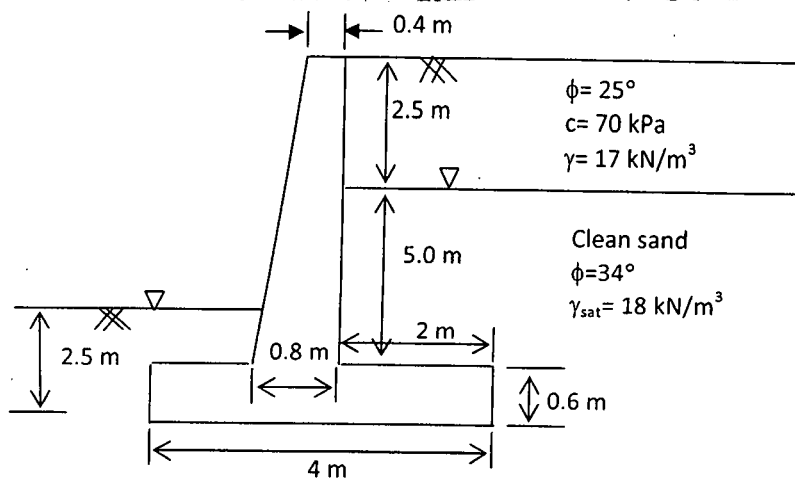

Fig. 3. for Q. 2(c)
(c) Determine the factor of safety against overturning and sliding failure for the retaining wall shown in Fig. 3. Ignore the passive resistance in front of the wall. Comment on the safety against overturning and sliding. Unit weight of concrete,  $\gamma_{conc} = 22.5 \text{ kN/m}^3$ . (13 ⅓)
- (b) A cantilever beam shown in Figure 3 is subjected to distributed load. Write down the global FE equation for the beam and find out (i) deflection and rotation at right end (ii) reaction force and moment at the left end. (8  $\frac{1}{3}$ )
- (b) Write the equation of motion of the one-story, one-bay frame shown in Figure 3. The flexural rigidity of the beam and column is as noted. The mass lumped at the beam is m, otherwise, assume the frame to be massless and neglect damping. (12)